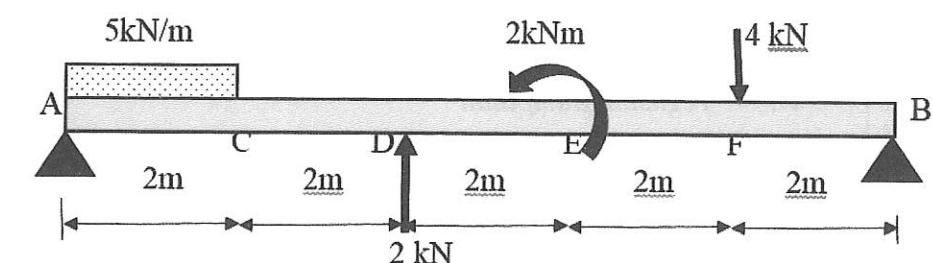

Figure 4 / Rajah 4
- (c) Figure 4 shows a 10 m simply supported beam subjected to an evenly distributed load of 5 kN/m, point load of 2 kN and 4 kN and moment of 2 kNm along its span. Draw the shear force diagram and bending moment for the beam.